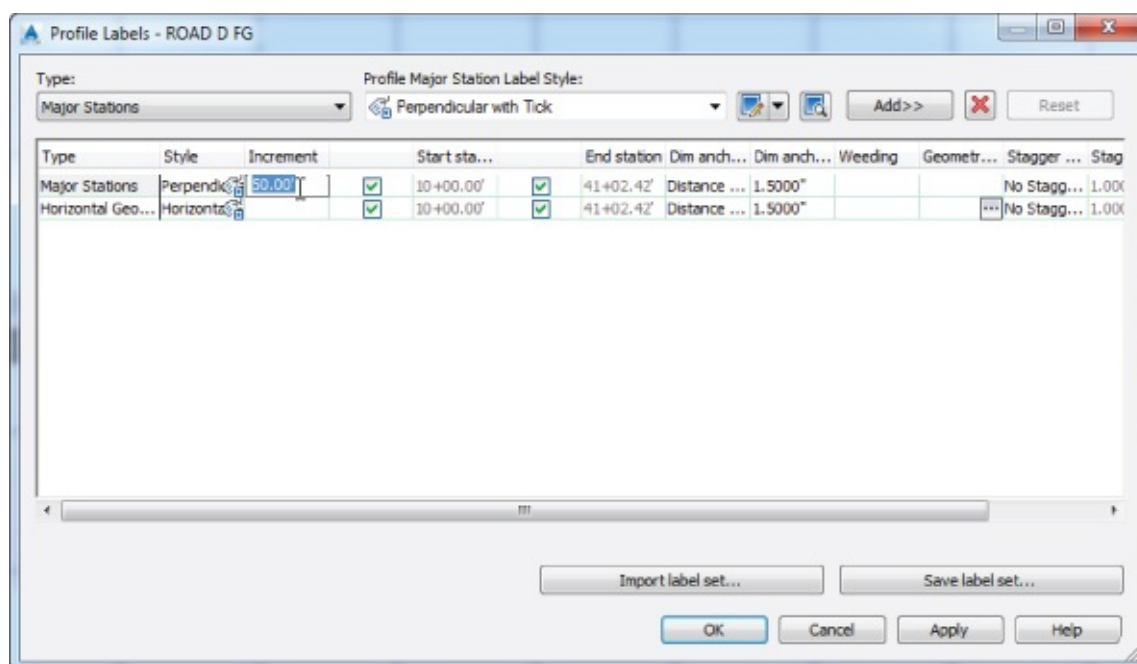

Figure 7.71 Modifying the major station labeling increment
2. In the middle of the Profile Labels dialog, change the Increment value in the Major Stations row to **50** (or **10** for metric users), as shown in Figure 7.71.